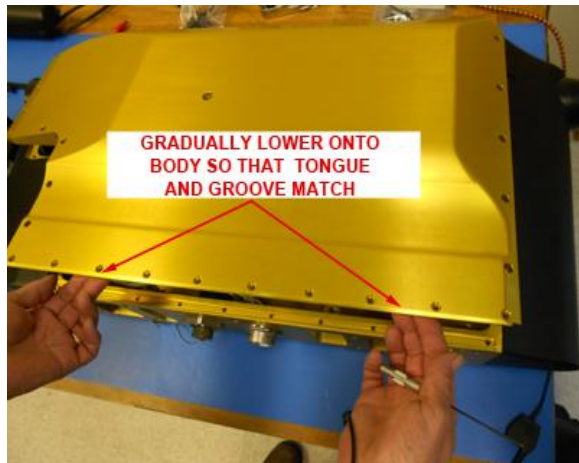

Figure 6.2.3.
4. Hold the pylon cover and gradually lower onto the pylon body so the tongue and groove and pylon connector are aligned as shown in **Figure 6.2.3**. The o-ring must be fit inside the groove throughout or a proper seal isn't achievable.